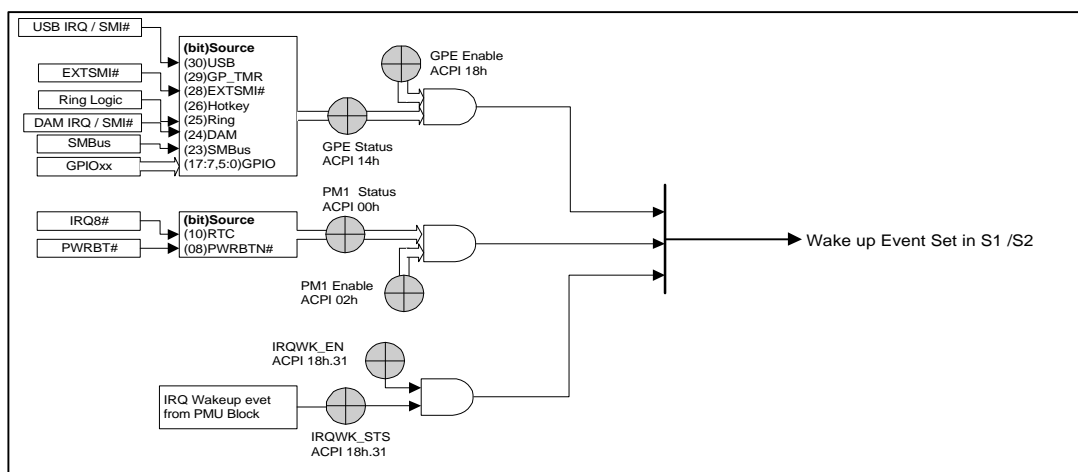

Figure 3.2-2 Wake up events in S1 / S2
4) When the system is awoken, the WAK_STS is set, re-enable the ISA bus, unmask the ISA commands, and finally de-assert the STPCLK# in about 4ms. A period of 4ms is reserved to allow the CPU/PLL stabilization. A set of wake up events illustrated in Figure 3.2-2 Wake up events in S1 / S2 are supported to wake up the system in the S2 state.